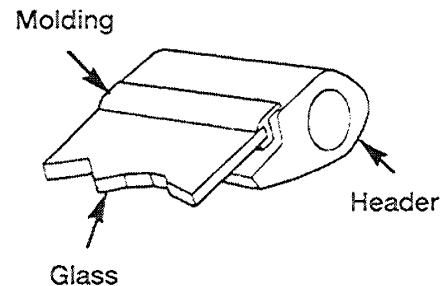

Fig. 1 Windshield Molding
3. Remove windshield molding (Fig. 1). Pull outward on molding at the bottom of A-pillars using pliers.
7. Install windshield molding (Fig. 1).